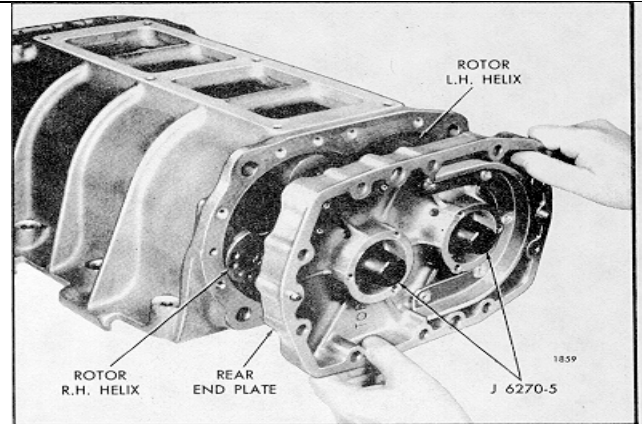

Fig. 19 - Installing Blower Rear End Plate (Lip Type Oil Seals)
- e. Place the rear end plate over the oil seal pilots (Fig. 19) and start the dowel pins straight into the dowel pin holes in the housing. Push or tap the end plate against the housing.